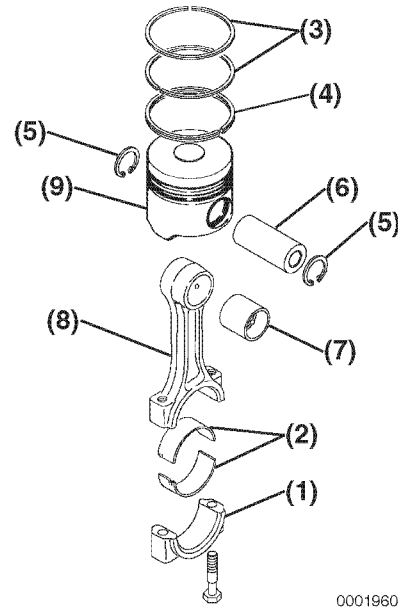

Figure 6-131
1. Lubricate and reinstall the wrist pin (**Figure 6-131, (3)**) through the piston and connecting rod.
2. Reinstall the second circlip (**Figure 6-131, (4)**) and ensure it is securely seated in the groove.